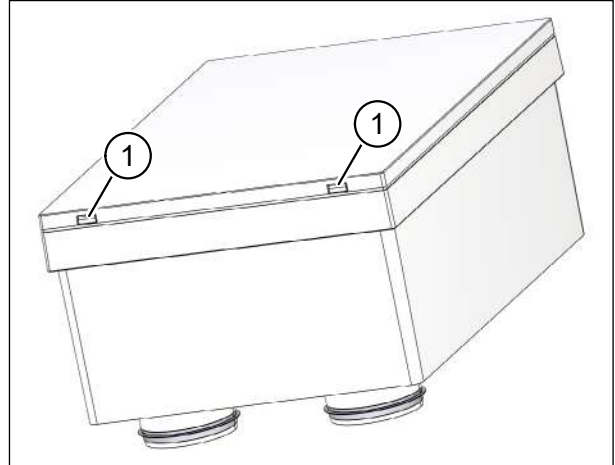

Fig. 32: Removing the unit cover from the ventilation unit
- ▶ Using both thumbs, press the two latches (item 1 in Fig. 32) on the bottom of the ventilation unit. The unit cover will come away.